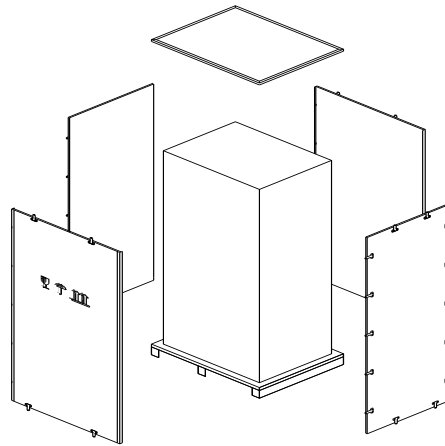

Fig.2-4 Disassemble the case
3. Open the top plate of the steel-edged wooden case with slotted awl and pier, followed by side boards (see Fig.2-4).